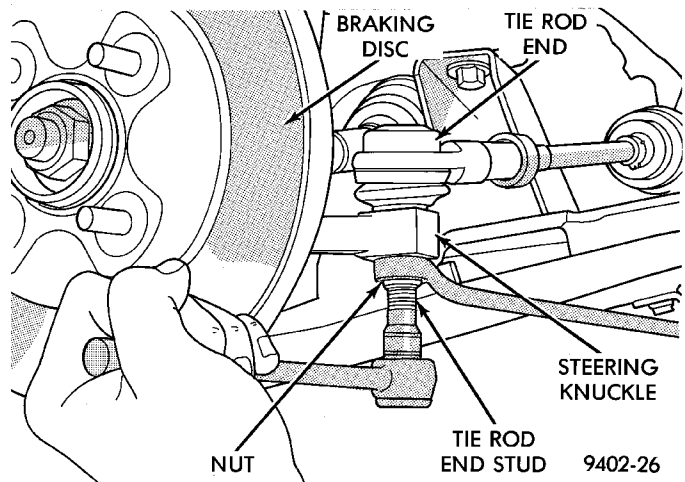
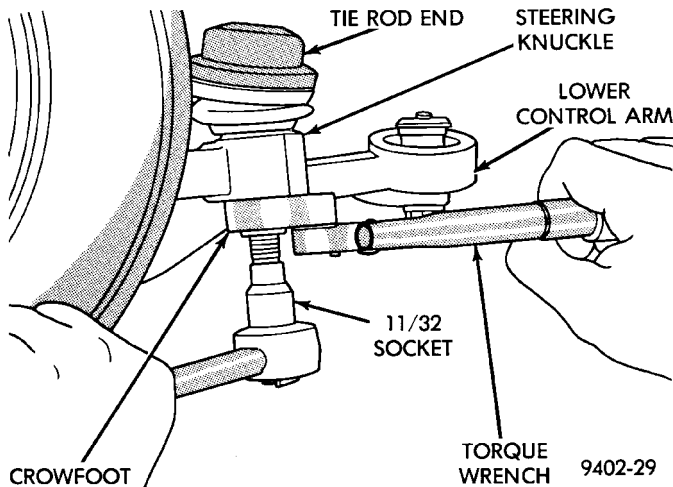

Fig. 20 Tie Rod End Attaching Nut
Fig. 26 Torquing Tie Rod End Attaching Nut
(9) Remove the nut attaching outer tie rod end to the steering knuckle (Fig. 20). **Nut is to be removed from tie rod end using the following procedure, hold tie rod end stud with a 11/32 socket while loosening and removing nut with wrench.**
(5) Install tie rod end into the steering knuckle. Start tie rod end to steering knuckle attaching nut onto stud of tie rod end. While holding stud of tie rod end stationary, tighten tie rod end to steering knuckle attaching nut (Fig. 20). Then using a crow-foot and 11/32 socket (Fig. 26), torque tie rod end attaching nut to 55 N·m (40 ft. lbs.).